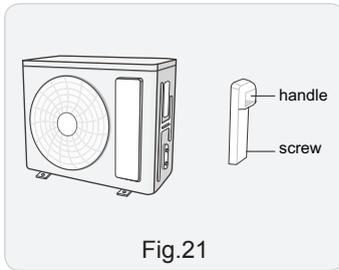

Fig.21
(1) Remove the screw on the right handle of outdoor unit and then remove the handle.(As show in Fig.21)